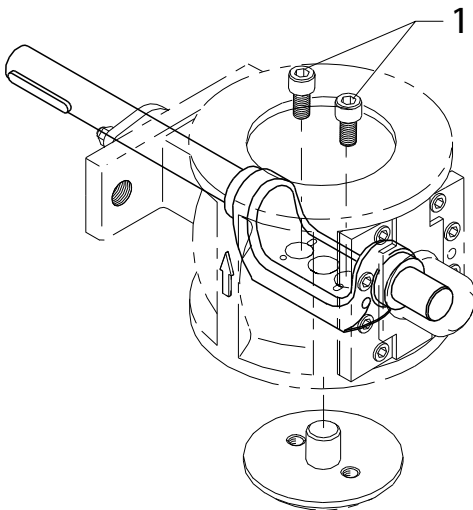

Fig.6-12 Replacing seat DN 80-250
4. Undo the screws (→ Fig.6-12/1) alternately with the aid of a spanner. Check the surface of the ball segment for damage. Damage can very quickly destroy a new seat. If the ball segment has to be replaced, see section “Replacing ball segment” (→ Chap.6.7).